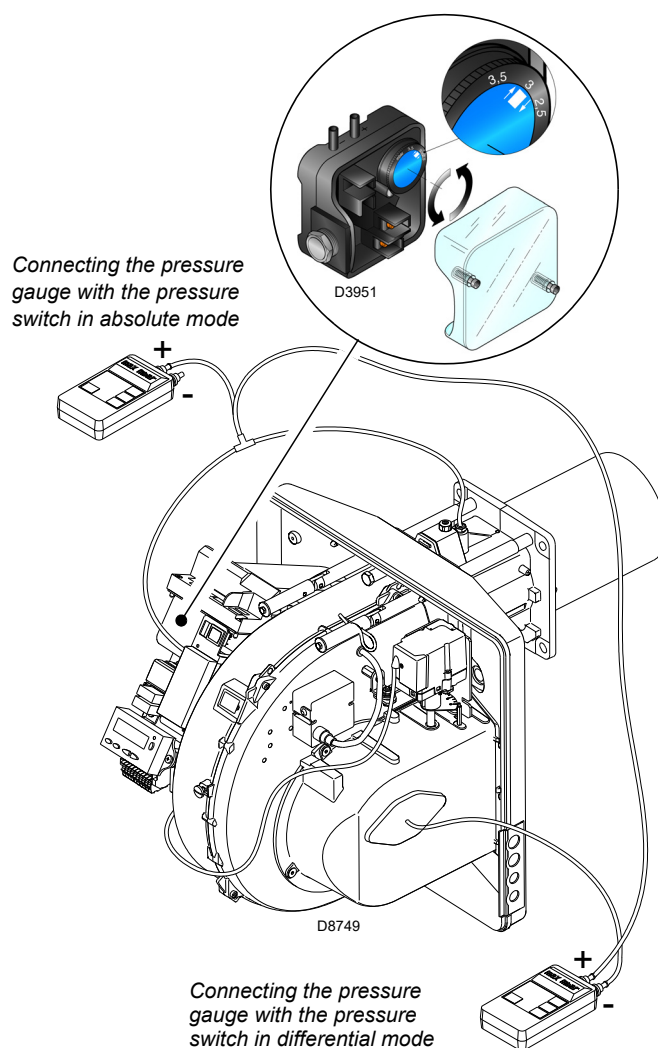

Fig. 30
- Adjust the air pressure switch (Fig. 30 at page 31) to the start of the scale.
Adjust the air pressure switch (Fig. 30) after having performed all other burner adjustments with the air pressure switch set to the start of the scale.
The connection of the pressure gauge is shown in Fig. 30.
In certain applications in strong depression situations, the connection of the pressure switch does not allow it to change over. In this case it is necessary to connect the pressure switch in differential mode, applying a second tube between the air pressure switch and the fan suction line mouth. In this case also, the pressure gauge must be connected in differential mode, as shown in Fig. 30.